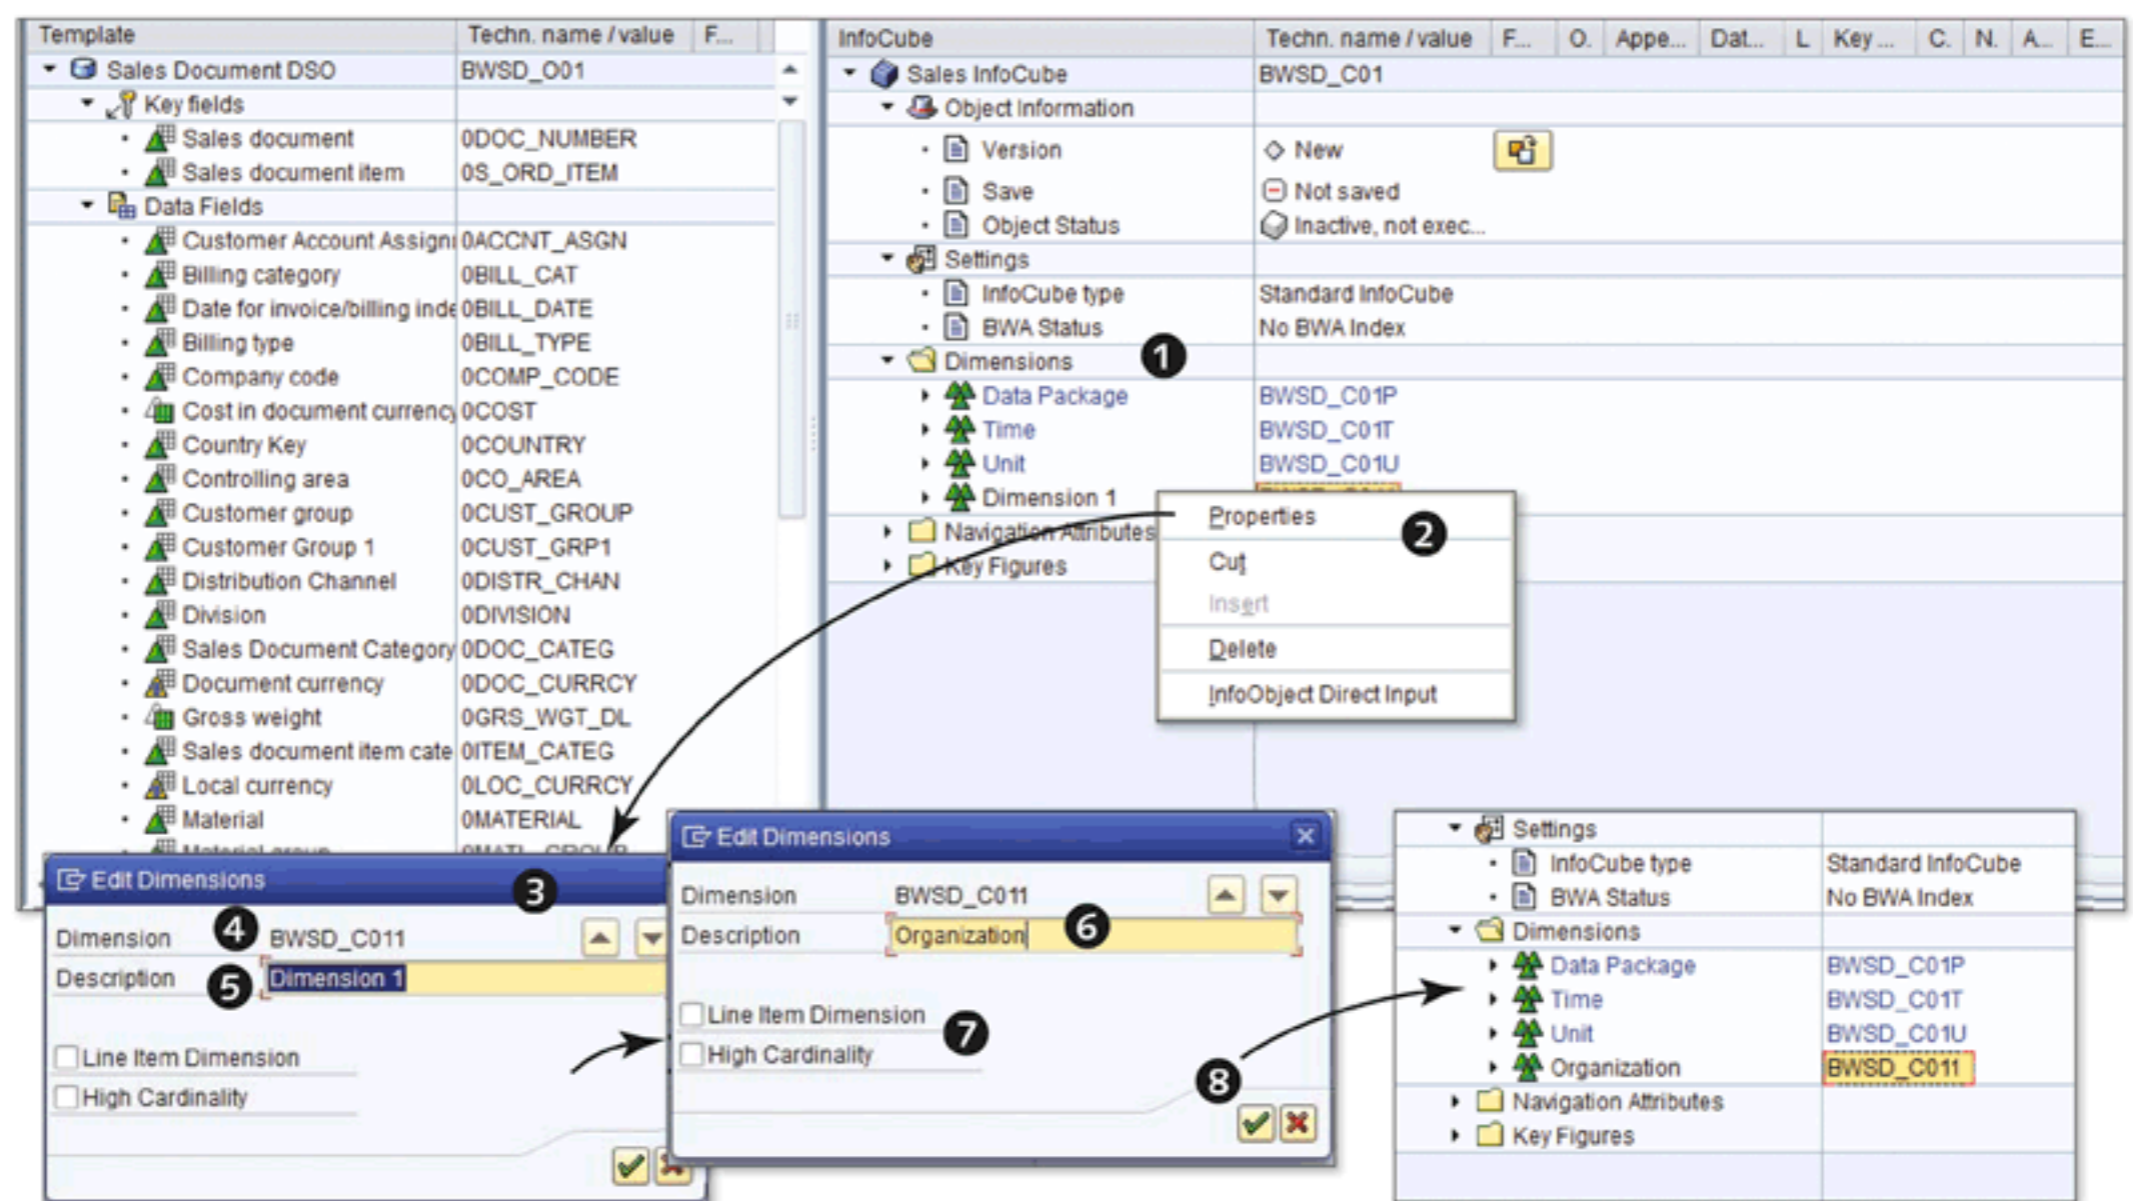

Figure 5.12 Change Dimension Description
Before we explain how to add new dimensions, let's explain the process of changing the description of Dimension 1, the placeholder name for the customer-defined dimension. (A dimension's description is visible in BEx Query Designer while designing a query based on an InfoCube and is a great help when working with queries.) As shown in ② of Figure 5.12, select the PROPERTIES option from the context menu of DIMENSION 1, under DIMENSIONS (refer to ① of Figure 5.12).
A screen titled EDIT DIMENSIONS appears, as shown in ❸ of Figure 5.12. By default, the technical name BWSD_C011 is assigned to Dimension 1 (❹). The description of this dimension also appears as DIMENSION 1 (❺).
Going back to our earlier example, edit the description of the first customer-defined dimension so it reads "Organization" (6 of Figure 5.12). Immediately beneath this, there are two checkboxes (7), which are explained next.
When finished in the EDIT DIMENSION screen, click on the CONTINUE icon (refer back to ⑧ of Figure 5.12), or press to return to the InfoCube definition screen.